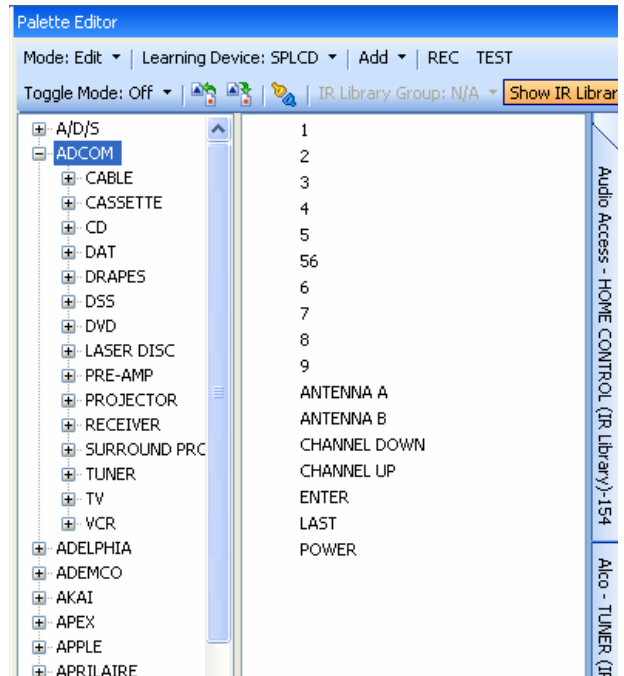

Figure 21
3. Locate and Select (single click) the type of COMPONENT as shown in **Figure 21** (DVD, SAT etc) (See later section for 'Adding Components and Functions').
3. Locate and Select (single click) the type of COMPONENT as shown in **Figure 21** (DVD, SAT etc) (See previous section for 'Adding Components and Functions').